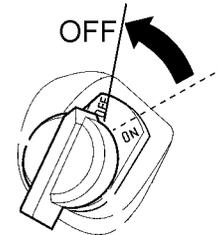

Figure 18. Engine ON/OFF Switch (OFF)
- Place the ON/OFF switch (Figure 18) in the "**OFF**" position.
- Place the engine ON/OFF switch (Figure 18) in the "**OFF**" position.